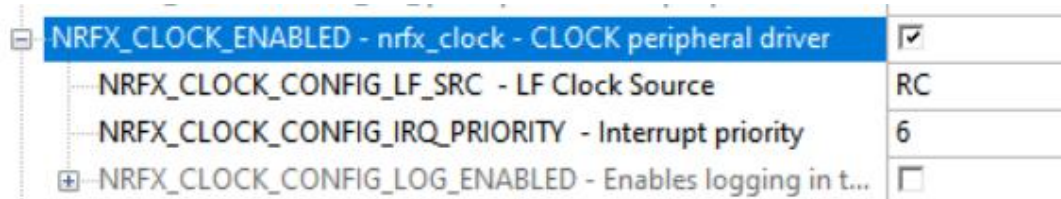

Figure 2-8 NRF52_CLOCK_ENABLED
a.Unfold"nRF_Drivers"->"NRF52_CLOCK_ENABLED"Make the changes as shown in Figure 2-8